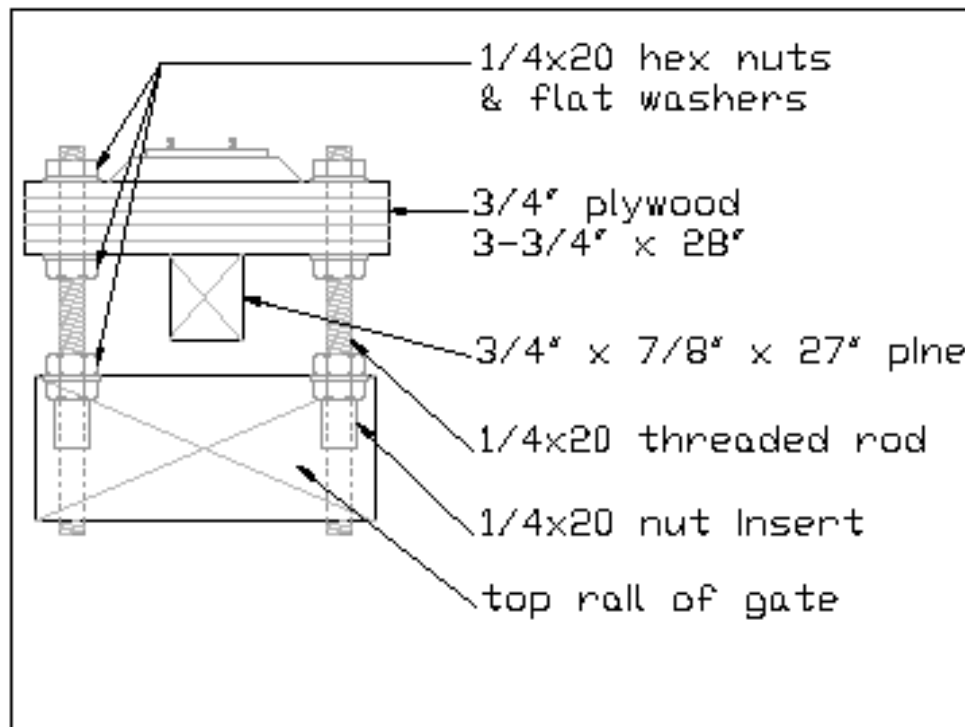

Figure 1
- This section is supported on four pieces of 1/4-20 UNC threaded rod. These are set into the top rail of the gate using 1/4-20 nut inserts of the type used for leveling legs on furniture. Flat washers and hex nuts are used to attach the roadbed section to the top rail. These four assemblies provide vertical adjustment for the tee section of roadbed. See Fig. 1